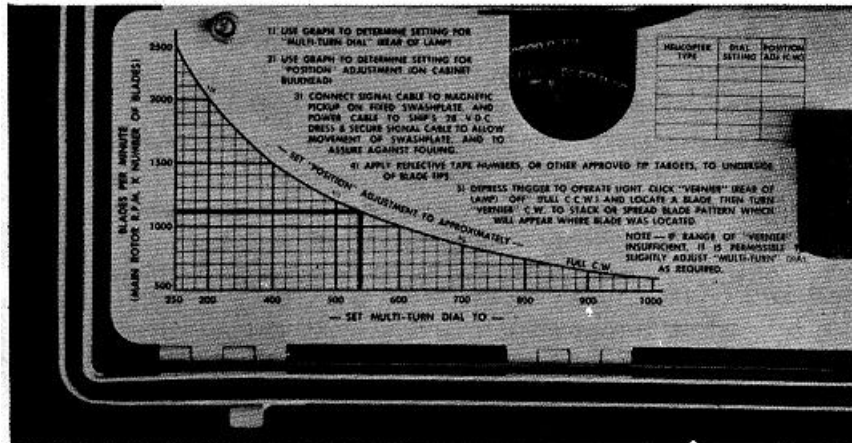

Figure 4-1. Rate Setting Chart.
- c) Use graph (Index #6, Table 4-1, Figure 4-1) to determine setting of Multi-turn Dial and Position control. Set dial and control.
The blank chart in the top right corner of the chart (Fig. 4-1) is provided so the operator can write in the numbers for various helicopter types he might be using. The information can be erased and re-written. Use pencil or ball point pen.